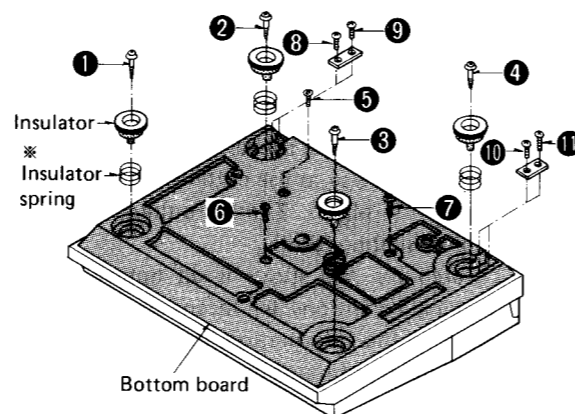

Fig. 1
3. Remove the insulator and bottom board setscrews ① ~ ⑪. Then the bottom board can be removed. (See Fig. 1)